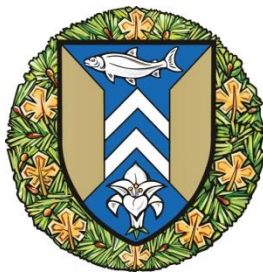

**Figure 6**
The framing details described in the pamphlet are based on a 1 storey wood framed structure that does not include any additional superimposed loads. Framing methods must be in accordance with Section 9.23. of the Ontario Building Code and good engineering practice. A detailed discussion of this aspect of construction is beyond the scope of this pamphlet. However, some common framing details are shown in Figure 6.
**Notes to Figure 6:**